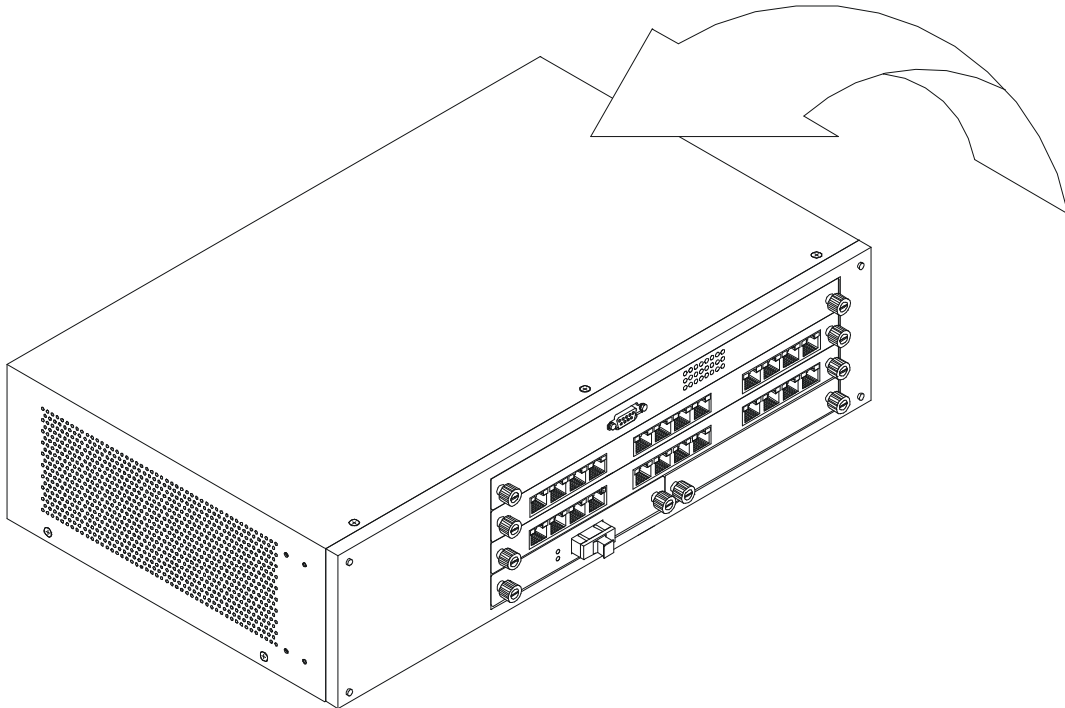
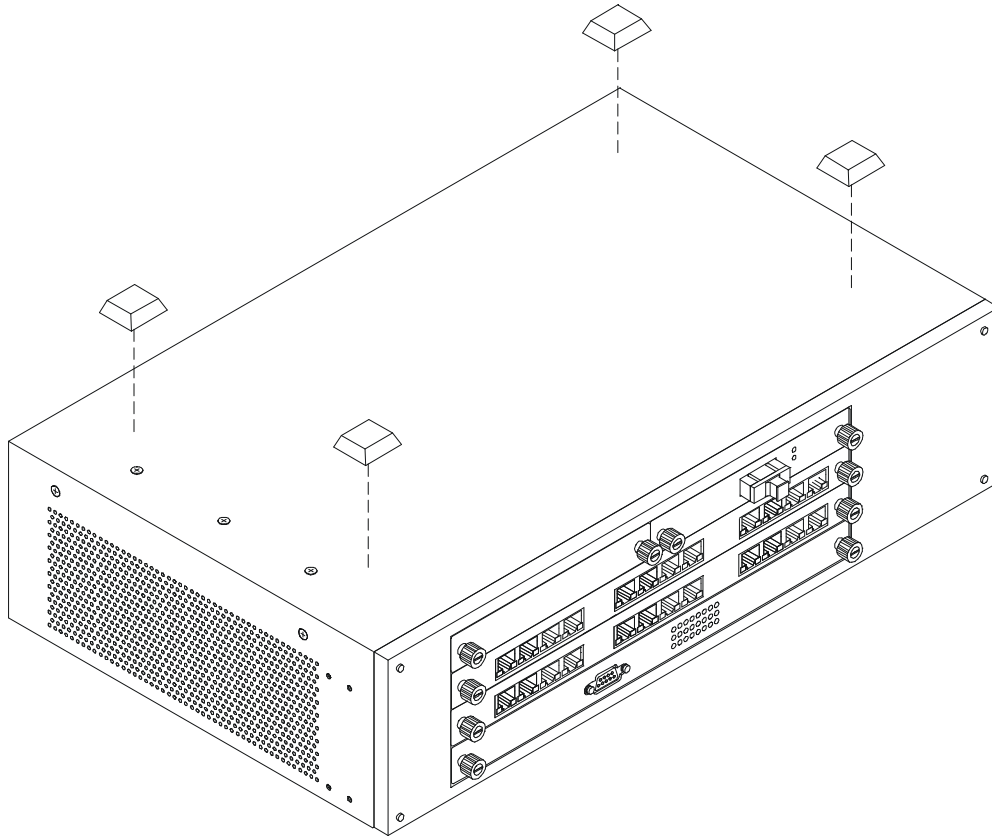

Figure 3: Install Feet on Bottom
Figure 4: Attach Feet
1. Place the four rubber feet at the corners of the DES-5024. See Figure 3 and Figure 4.